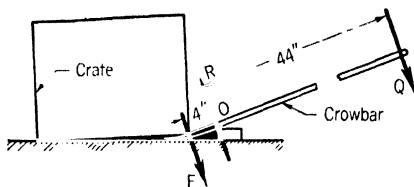

FIG. 382. LEVER ACTION, PROBLEM 2
2. A crowbar is used to lift the edge of a crated airplane engine (Fig. 382). It is pivoted on a block of wood at O and the worker exerts a force of $Q = 150$ lb. as shown. What force, F , is applied to the